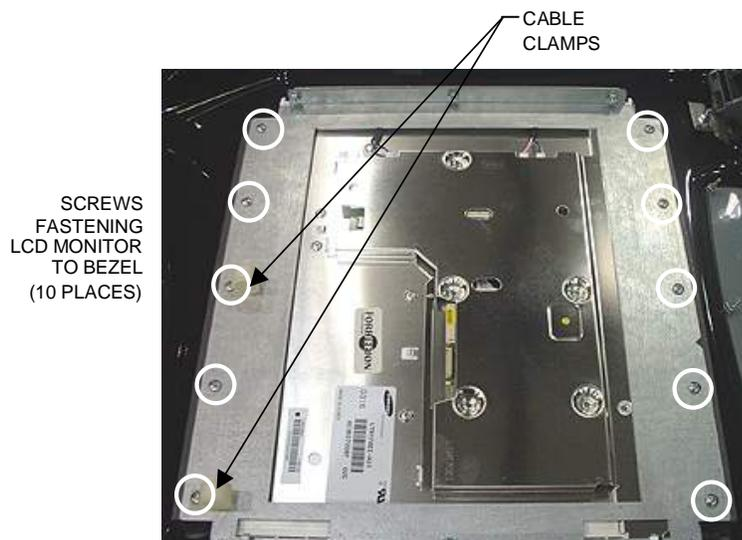

FIGURE 14 - FORCE FUSION - UNDER SIDE OF MONITOR
6. Place the bezel assembly upside-down on a flat surface and remove the 10 screws fastening the LCD monitor to the bezel (remember which 2 screws also fasten cable clamps), then remove the monitor from the bezel. See Figure 14.
10. Place the new LCD monitor in the bezel (make sure it is not upside-down), lining up the screw holes on the face of the mounting frame with the larger, drilled holes on the plastic mounting pieces (see Figure 15), and fasten it with the 10 screws. Also replace the cable clamps in the appropriate screw holes (See Figure 14).